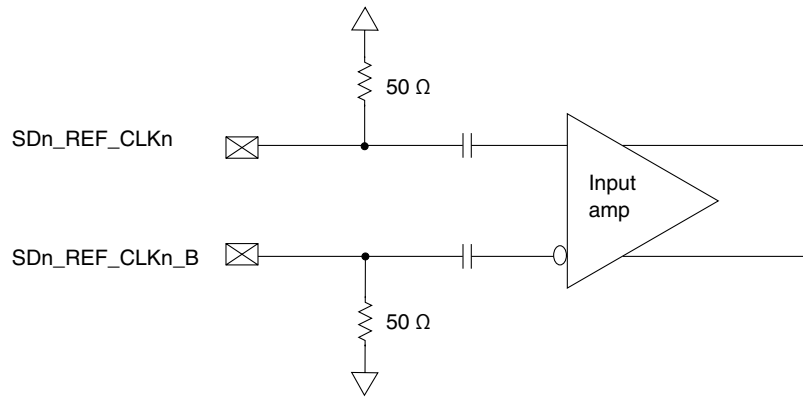

Figure 32. Receiver of SerDes reference clocks
- The SDn_REF_CLKn and SDn_REF_CLKn_B are internally AC-coupled differential inputs as shown in Figure 32. Each differential clock input (SDn_REF_CLKn or SDn_REF_CLKn_B) has on-chip 50 Ω termination to SGNDn followed by on-chip AC-coupling.